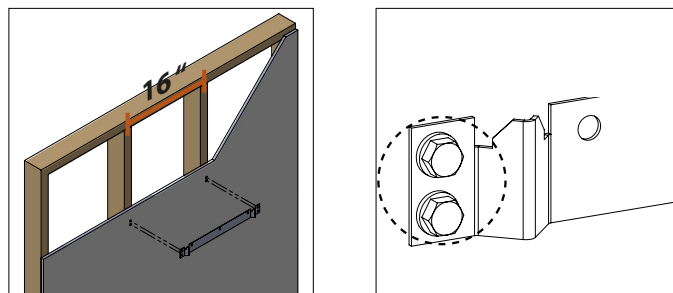

Figure 6 - Mounting the Bracket on 16" Center Studs
1. Position the upper wall mounting bracket on the wall. Ensure the bracket is level and the drilling holes are on stud. Then use the bracket as a template to mark four (4) drilling holes on the wall - two (2) on each side of the bracket. See Figure 6 for details.